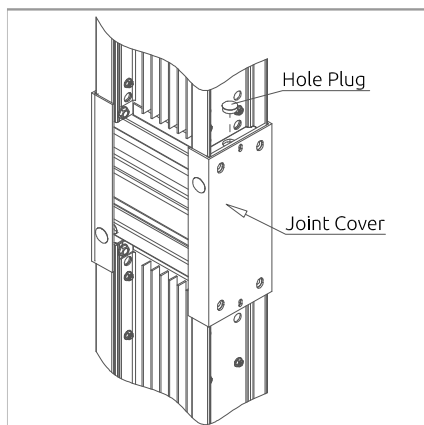

Figure 11.3
4. Install the both joint cover. (Figure 11.3)